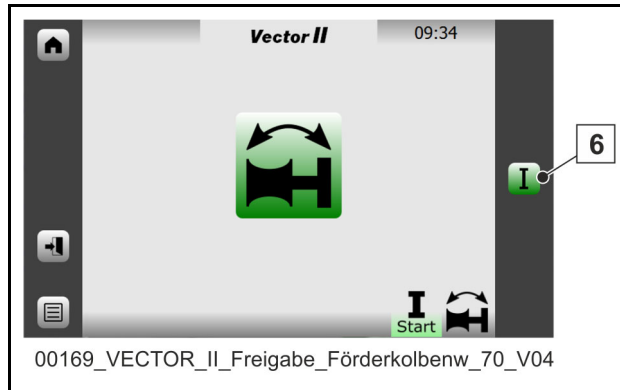

Fig. 88 Release pumping piston change
- After the selection, release “Pumping piston change” operating mode by actuating the button (6) (Fig. 88).